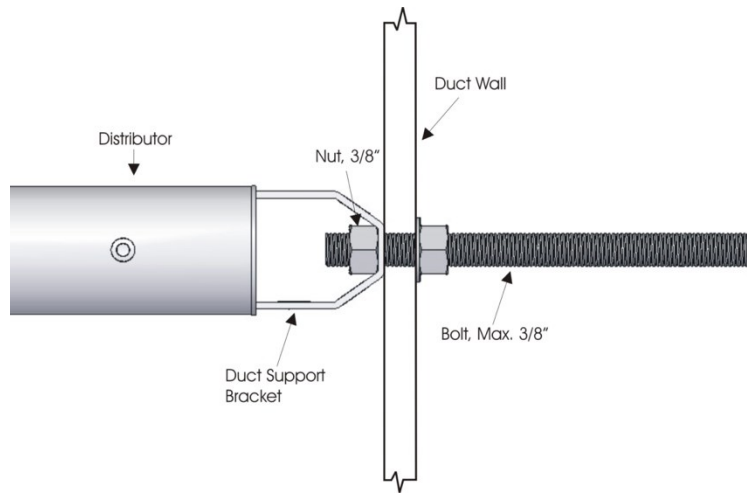

Figure 11: Duct Support Bracket Flush with Duct Wall
- 2 Distributors must be mounted level. There is a support bracket at the end of the distributor to secure to the duct wall. See Figure 11 to 14 for installation tips.